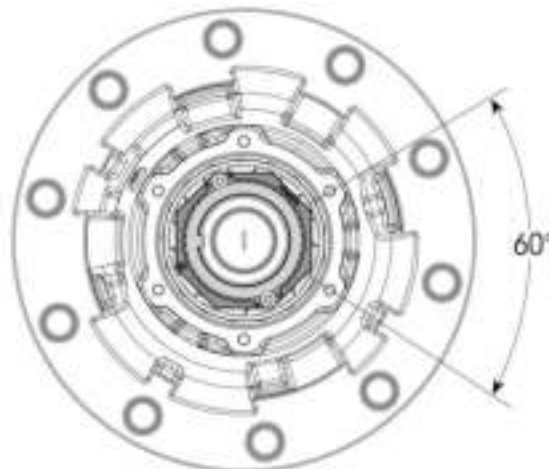

Figure 12: Back off nut 1/8 turn
8. Back-off nut 1/8 turn (Figure 12, one hubcap screw hole).